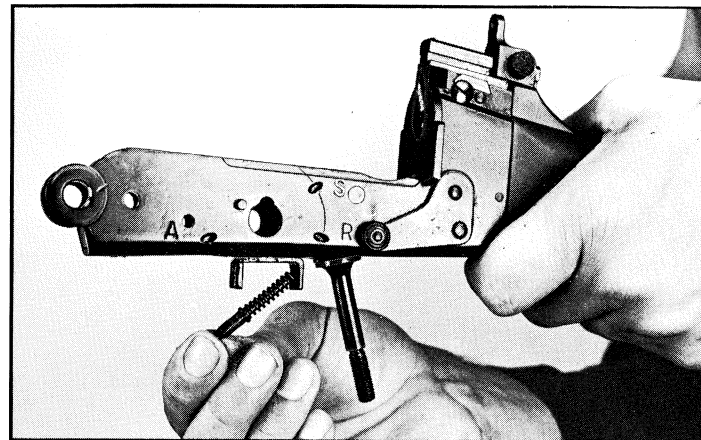

Fig.106
g) **Trigger spring.** — With the finger depress to the rear trigger spring plunger in order to compress the trigger spring, swing plunger downwards (fig. 106).